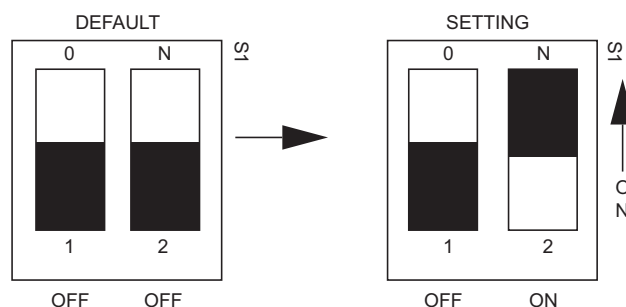

FIGURE 1 - DIP SWITCH SETTINGS FOR ALL UNITS
6. Switch 1 to OFF, Switch 2 to ON. Ensure DIP switch settings are as shown in Figure 1.